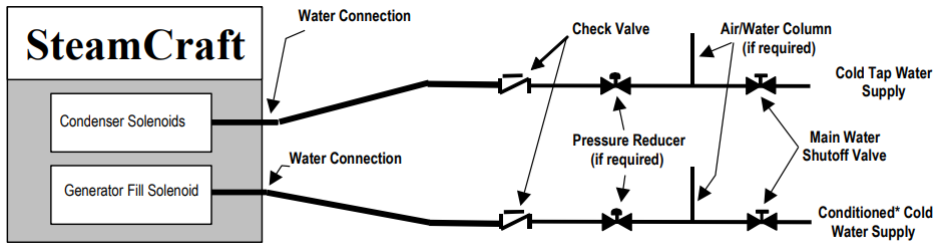

Figure 3-8 Cleveland Range Separate Water Supply Arrangement
- If the water supply fails to meet the requirements shown in the Warranty, then use the Separate Feed Water Supply Arrangement shown in Figure 3-8.